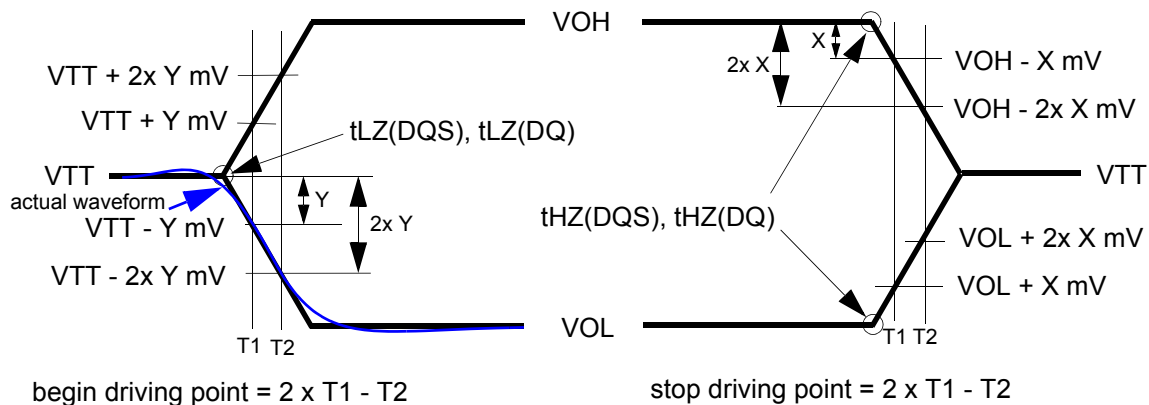

Figure 15. HSUL_12 Driver Output Reference Load for Timing and Slew Rate
- 12) For low-to-high and high-to-low transitions, the timing reference will be at the point when the signal crosses VTT. tHZ and tLZ transitions occur in the same access time (with respect to clock) as valid data transitions. These parameters are not referenced to a specific voltage level but to the time when the device output is no longer driving (for tRPST, tHZ(DQS) and tHZ(DQ)), or begins driving (for tRPRE, tLZ(DQS), tLZ(DQ)). Figure 15 shows a method to calculate the point when device is no longer driving tHZ(DQS) and tHZ(DQ), or begins driving tLZ(DQS), tLZ(DQ) by measuring the signal at two different voltages. The actual voltage measurement points are not critical as long as the calculation is consistent.